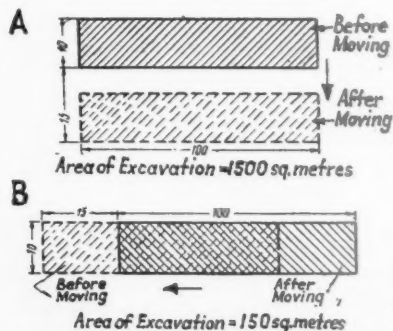

Fig. 19. Diagram illustrating the most economical direction of moving a building to save excavation costs.
The third factor to be considered in reducing the costs of moving to a minimum, is the extent of the area over which the building is moved. Obviously, the smaller this is, the lower is the cost of excavation, making up of ground, railway tracks, etc. The area can be reduced to a maximum by (1) keeping the moving distance as short as possible, and (2) moving the building with its longest side parallel to the direction of the move. The greater the difference between the length and breadth of the building, the more important the latter condition becomes (Fig. 19). In this case if the building is moved long side foremost, the area of excavation is ten times as great as that required if it is moved short side foremost for the same distance. The areas are proportionate to the length and breadth of the building.